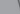

Fig. 126 Driver door: button to open and close rear lid.
- **OR:** depending on the features, pull the  button on the driver door upwards »» Fig. 126. The button also works when the ignition is switched off.
- **OR:** depending on the features, pull the  button on the driver door upwards »» Fig. 126.